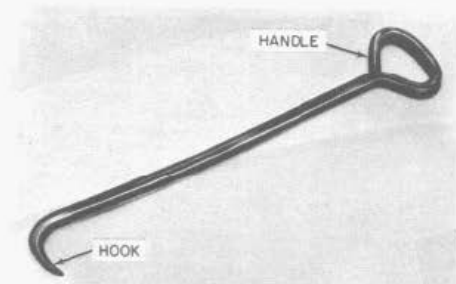

Fig. 5—Manhole Cover Hook
4.01 **B Manhole Cover Hook AT-8172:** The B manhole cover hook (Fig. 5) may be used to remove all manhole covers.